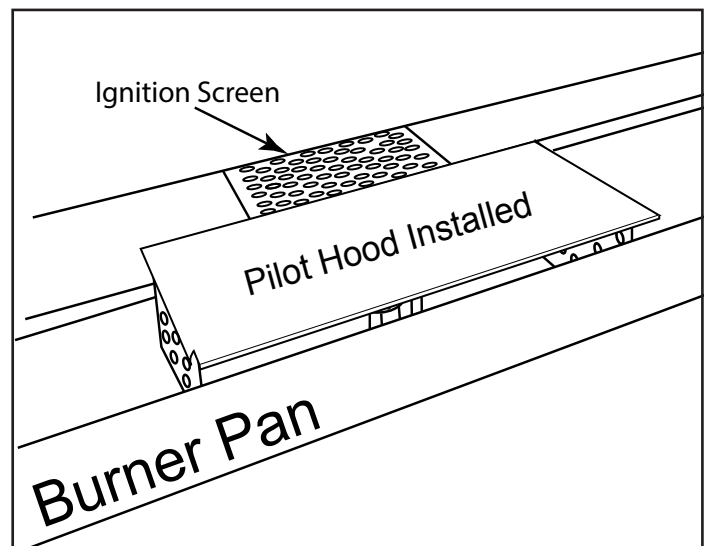

Fig. 32 Pilot hood installed, showing ventilation at front edge of burner pan.
Remove the plastic film from the pilot hood and place it on top of the pilot box as shown in Fig. 32.
**Step 24:** Open the media box and install the glass media as shown is Figs. 34 - 36. Place media fireglass into the trough area first as shown in Fig. 35. Use the remaining media to fill the burner pan equally on both sides. Install only one layer over top of the ignition screen (Fig. 32), just enough to camouflage it.